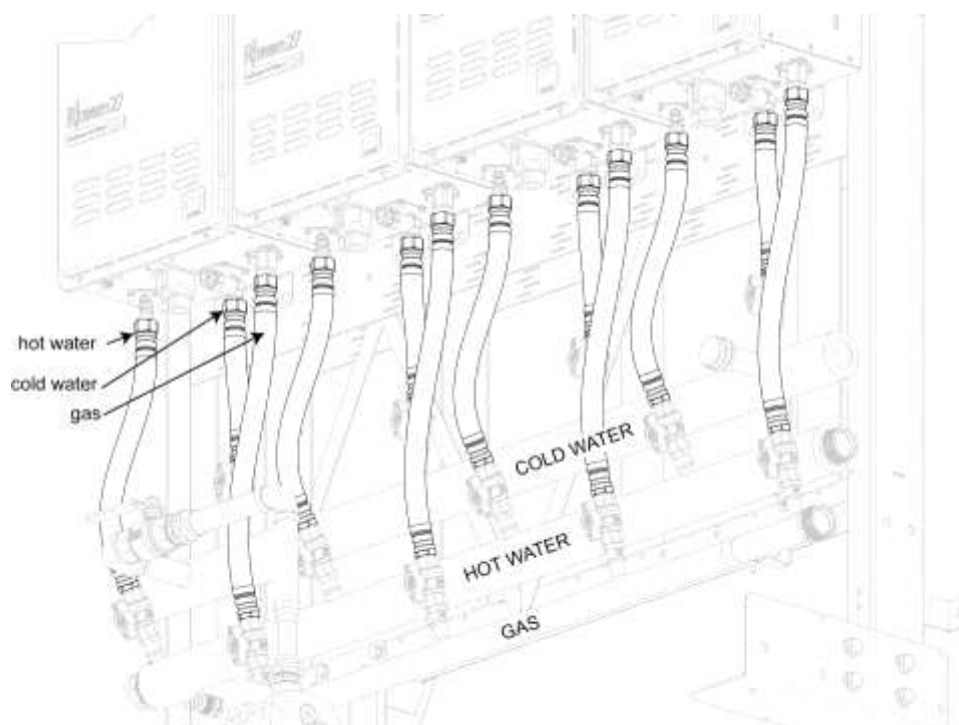

Figure 6
11. Reinstall the water and gas manifolds paying attention to their location. Refer to Fig. 6
allow for any flexible connection hoses to be kinked or restrict water or gas flow in any way. Refer to Fig. 6